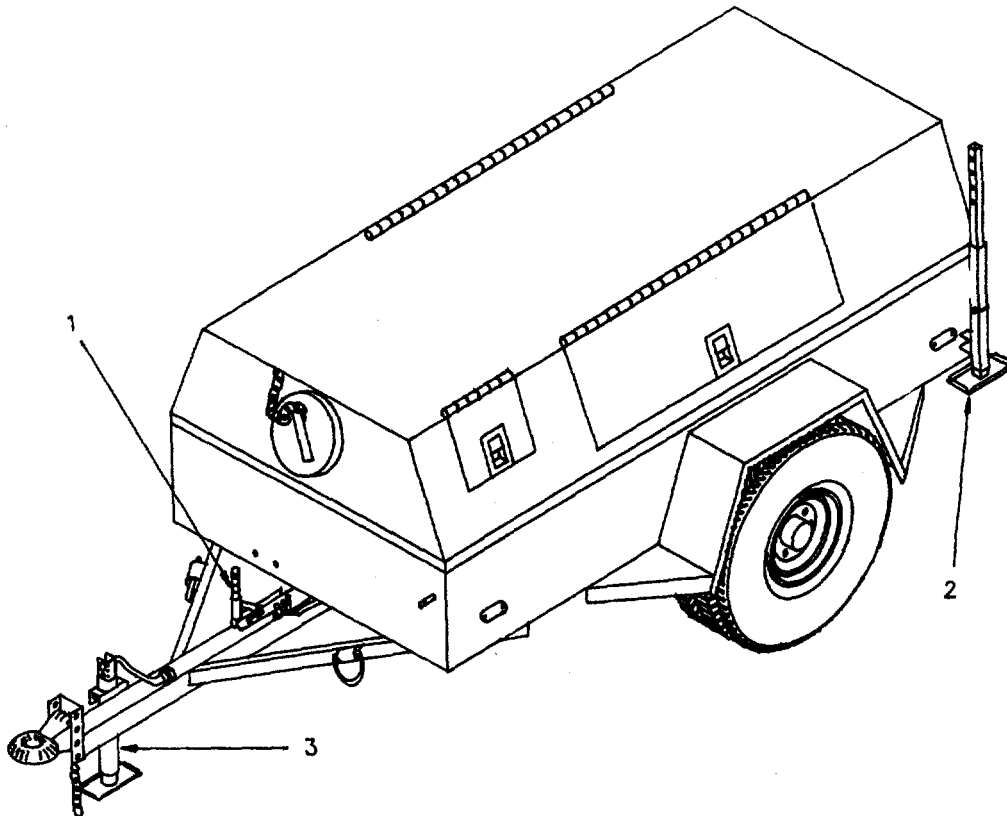

Figure 2-4. Trailer Exterior.
- a. Engage parking brake assembly (1, Figure 2-4).
- b. Adjust leveling-support jack (3) to normal level position.
- c. Adjust trailer stabilizer (2) to provide ground contact.
- d. Re-crank leveling-support jack (3) to raise trailer frame and stabilize rear supports.